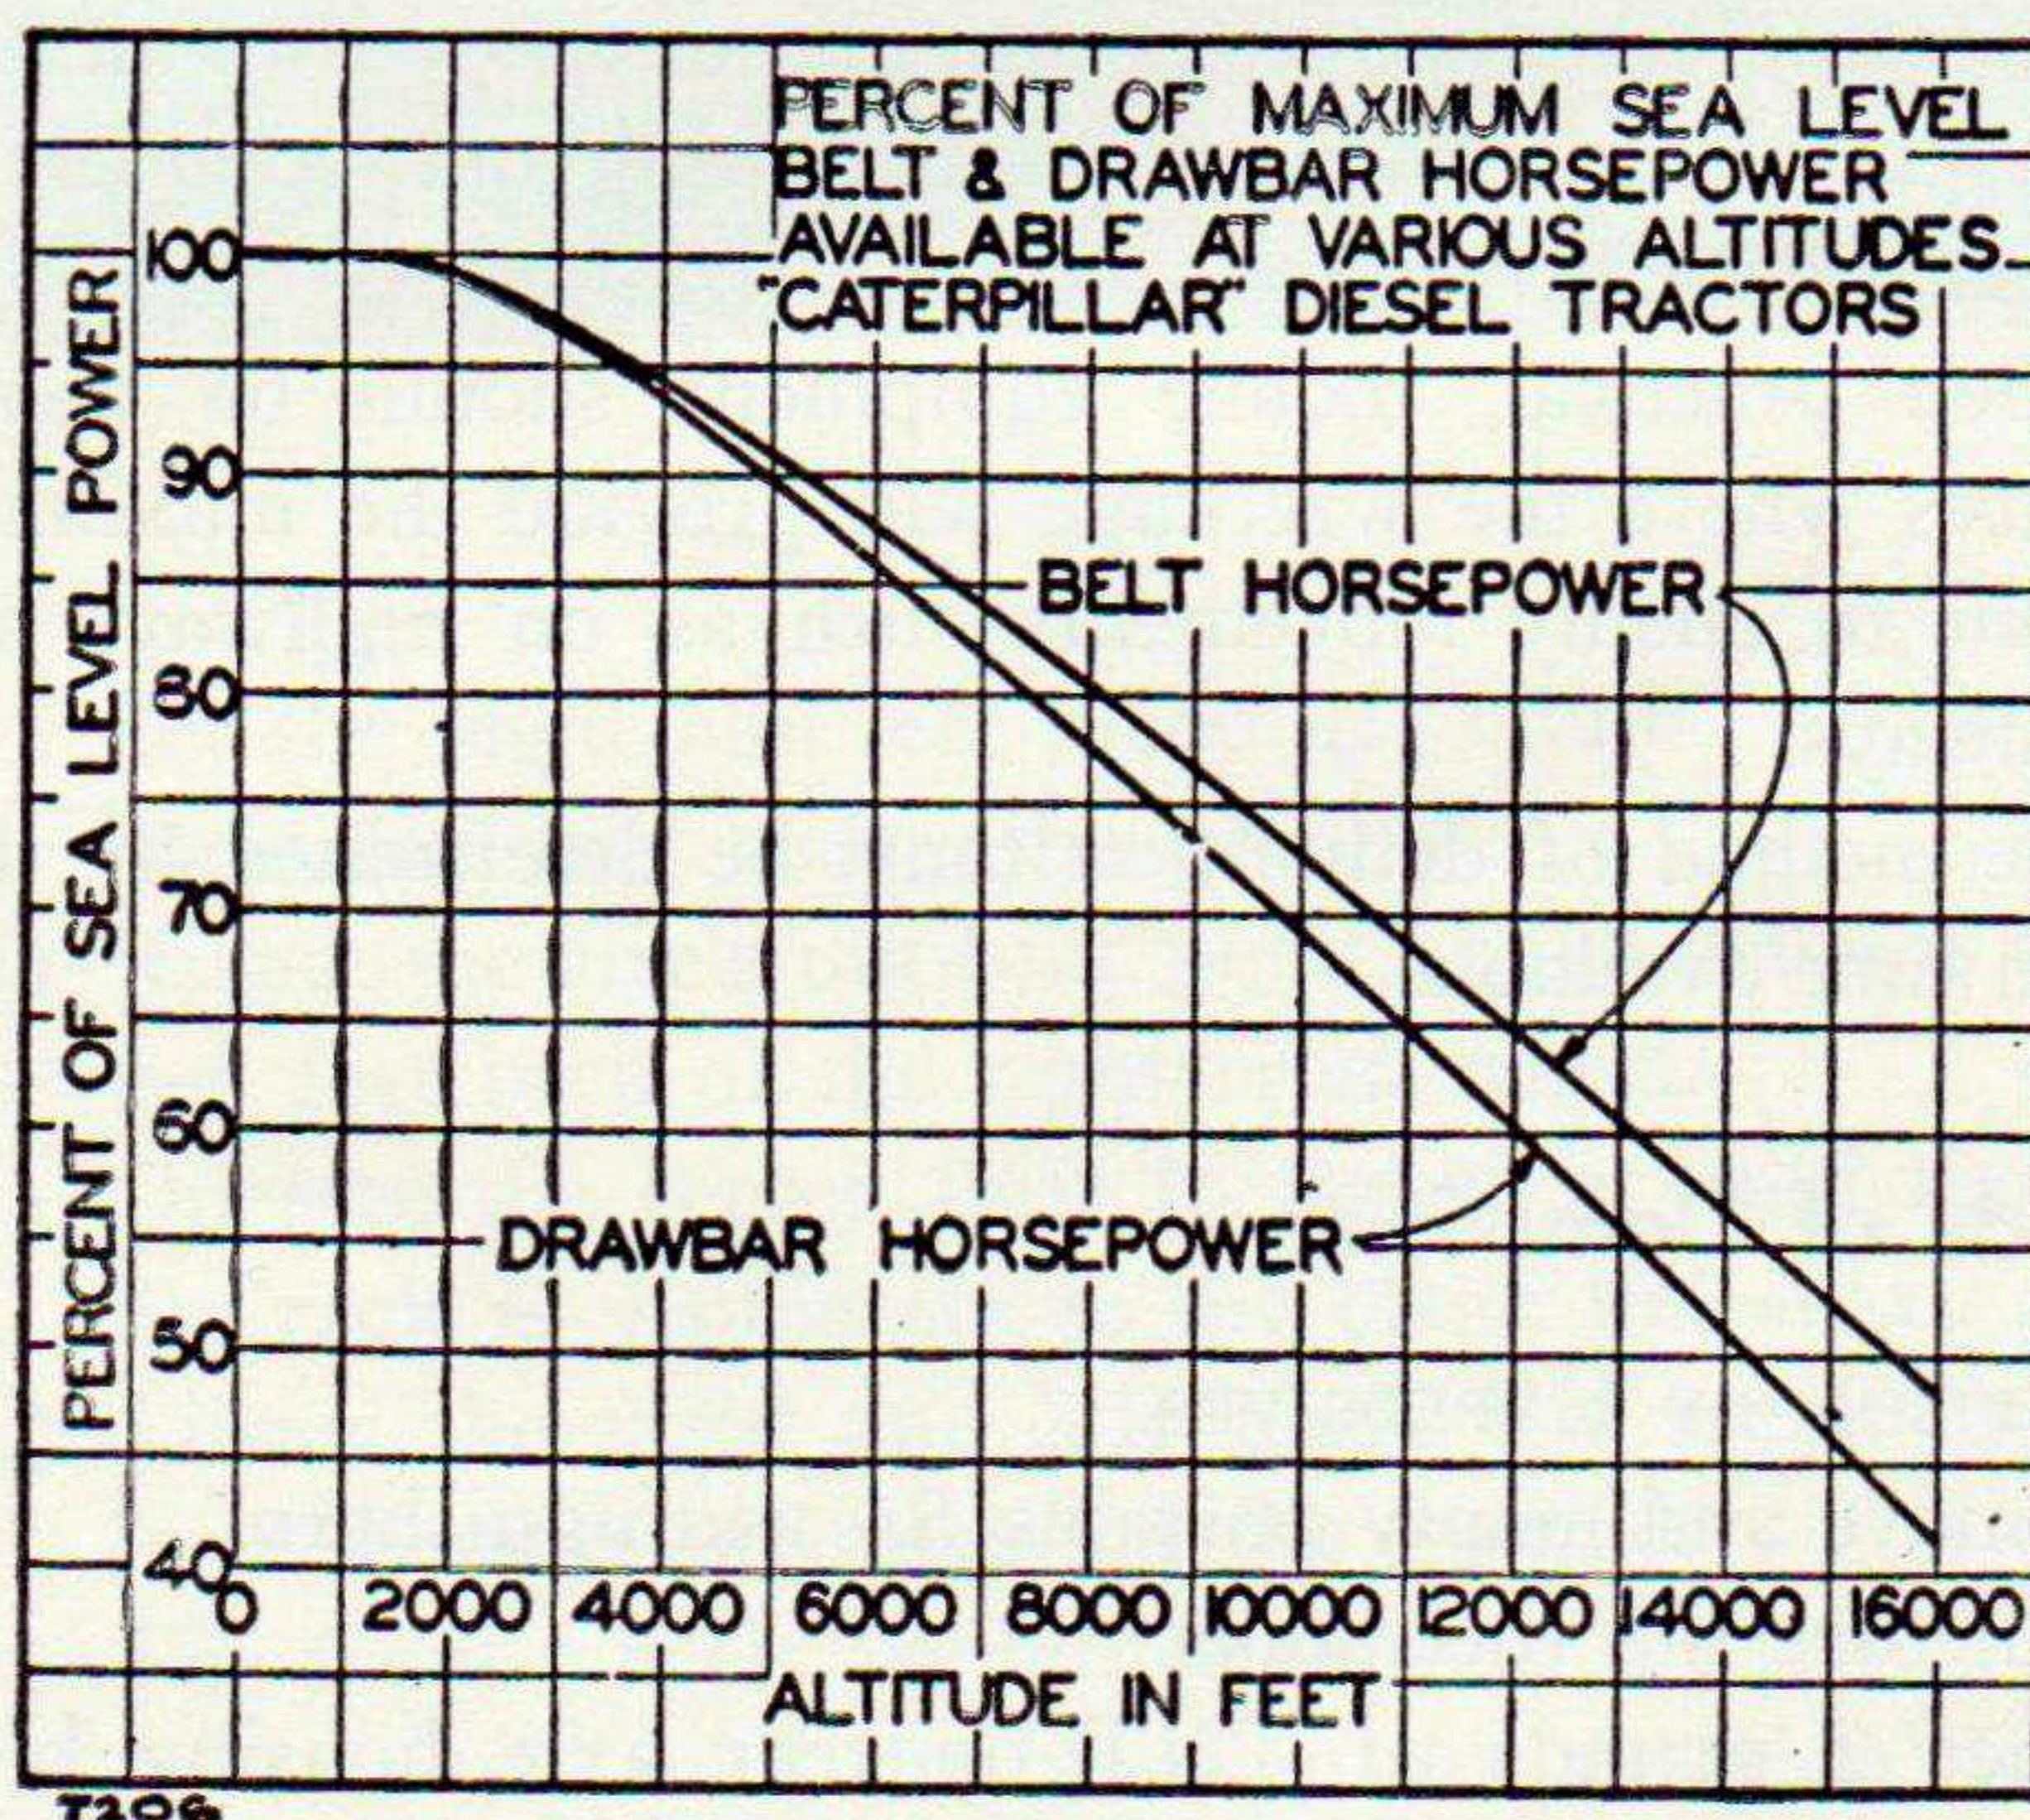

Figure 51. Altitude horsepower loss curve.
*b.* GRAPH. The power consumed between the engine and the load will vary slightly with the speed and tractive conditions, but the accompanying graph may be considered sufficiently accurate for estimating purposes. (See fig. 51.)